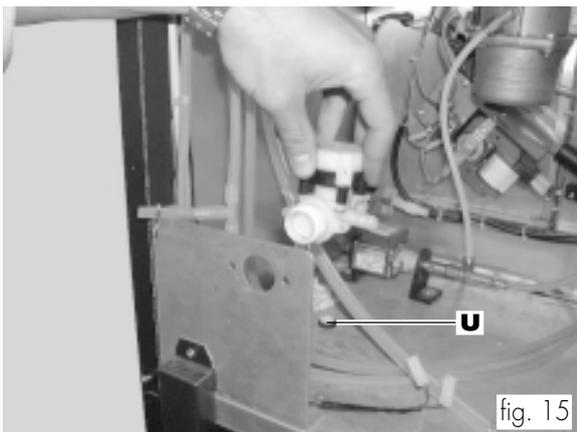

fig. 15
- Remove the water inlet solenoid valve (fig. 15).
- Withdraw the cap (ref. **u**, fig. 15). Connect the water inlet pipe to the pump. Move the other end of the pipe to the lower part of the vending machine passing through the hole (ref. **u**, fig. 15)